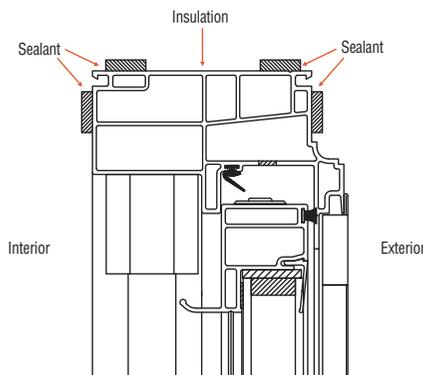

fig. 2
- Due to the variables in custom installations it is the job of the installer to determine how the window is going to be sealed to the exterior plane of the building. It is recommended that the window be sealed in a minimum of two areas of the window. See fig. 2 for a few recommended areas to apply sealant. The window can be positioned into sealant or sealed after the window is anchored into the opening.